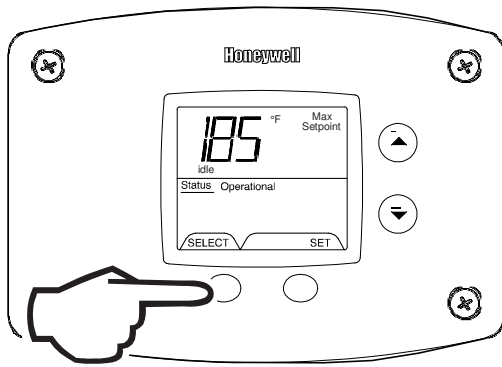

Fig. 39
1. In service mode press the 'Select' button until 'Max Setpoint' is displayed (Fig. 39).